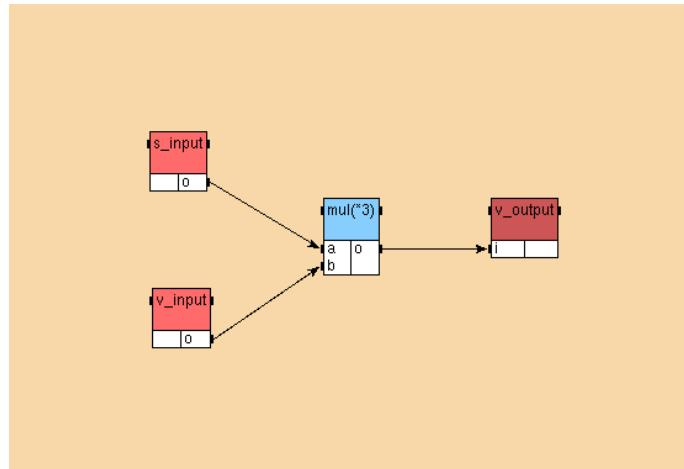

Figure 4.2: `AlgorithmMain1` of the **Example 4**
- create dependences between the references, in order to obtain the main algorithm (*cf.* figure 4.2);